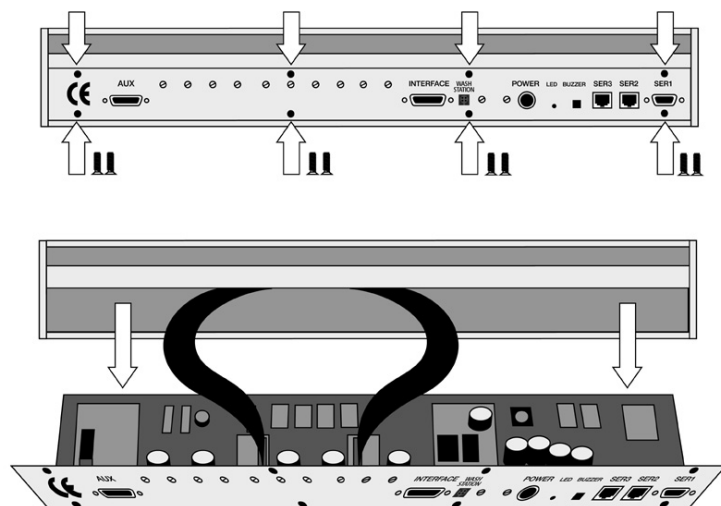

Figure 56. Replacing Control-HTC Board
1. Follow the sequence shown in Figure 56 to detach and release the Control board from its position inside the X-axis;